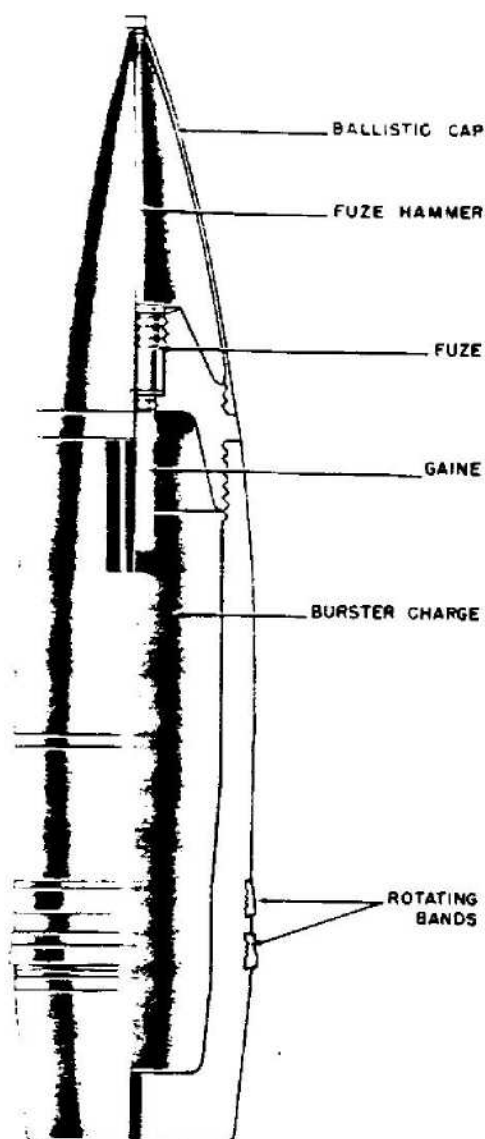

Figure 524—H. E. Projectile, Type 38, 170-mm
**GERMAN NOMENCLATURE:** 17-cm K. Gr. 38 (Hb) (Kanone Granate 38 [Haube]). (See fig. 524.)